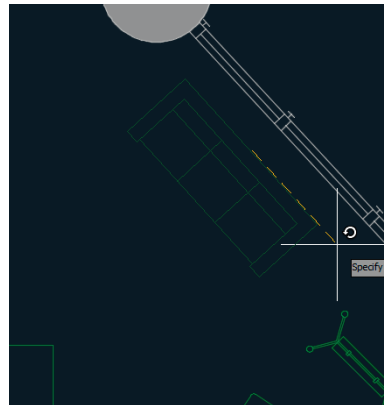

FIGURE 9.9 Inserting the new sofa
5. Click approximately where you deleted the armchairs and side table to insert a `Sofa2` block reference in the drawing, and estimate the rotation angle so that the sofa is parallel to the exterior wall (see Figure 9.9).